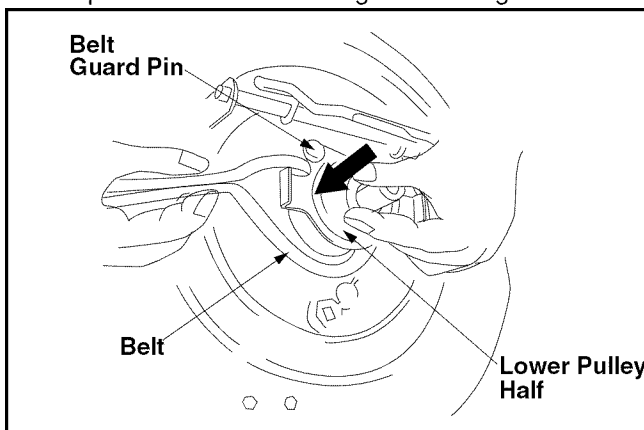

Figure 20
- Pinch both sides of the belt together so that the belt is not in the pulley groove, and the lower pulley can be pushed towards the engine. See Figure 20.